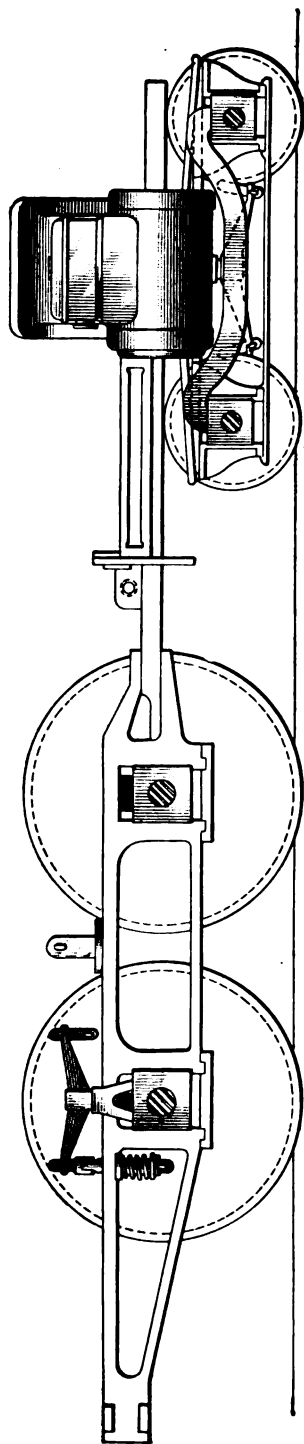

FIG. 30.
**61.** In the event of the equalizer or equalizer post breaking on an eight-wheeled engine, that side of the engine on which it breaks will drop down until the frame rests solidly on the driving boxes. The thing to do in a case of this kind is to raise the frame on that side to its normal position and block between it and the driving boxes to hold it there. To do this, proceed in the following manner: Run the back driver up on a wedge until an iron block of the proper size to hold the frame in position can be placed between the front driving box and the bottom of the frame, as shown in Fig. 30. Running the back wheel up on the wedge causes it to take the weight off the front driver and raise the frame above the front driving box far enough so that the iron block can be put in position as indicated in the figure. After blocking between the front driving box and the frame, roll the back driver off the wedge and run the front driver up on it. This will cause the front driver to take the weight off the back driver and raise the frame far enough so that an iron block can be placed between the top of the back driving box and the bottom of the frame, as shown in the figure. The front driver should then be run off the wedge. If the spring rigging on that side is not properly secured so as to avoid further damage, take out the springs, and then proceed. Blocking both drivers in the manner indicated in Fig. 30 makes that side of the engine rigid, since it cuts out both the driving springs. The side rods need not be disconnected for an accident of this nature, neither is it necessary to cut out the driver brake, but the driving boxes on the side of the engine that is blocked up should be closely watched and should receive oil liberally, as they are liable to become hot.